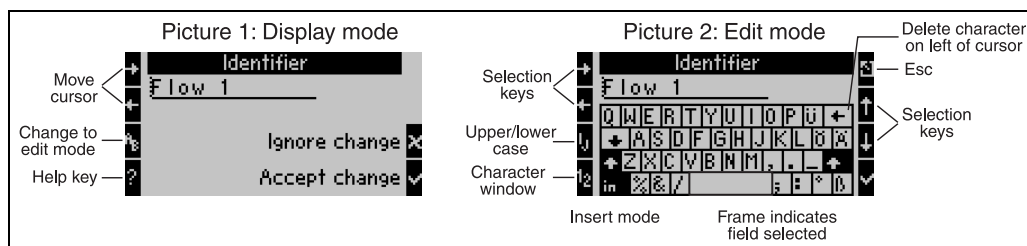

Fig. 18: Example: editing an identifier with the Palm keyboard
1. Using the cursor keys, place the cursor in front of the character before which another character should be entered. If the entire text should be deleted and rewritten, move the cursor completely to the right. (see Fig. 18, graphic 1)
3. Use the ij/IJ and ½ key to select upper/lower case or numerals. (see Fig. 18, graphic 2)
4. Use the cursors to select the key required and use the tick sign to confirm. If you want to delete text, select the key in the top right. (see Fig. 18, graphic 2)
6. Press the Esc key to switch from the editing mode to the display mode and accept changes with the 'tick' key. (see Fig. 18, graphic 1)
- The cursor cannot be moved in the editing mode (see Fig. 18, graphic 2)! Use the Esc key to go to the previous window (see Fig. 18, graphic 1) to move the cursor to the character which should be changed. Then confirm the AB key again.